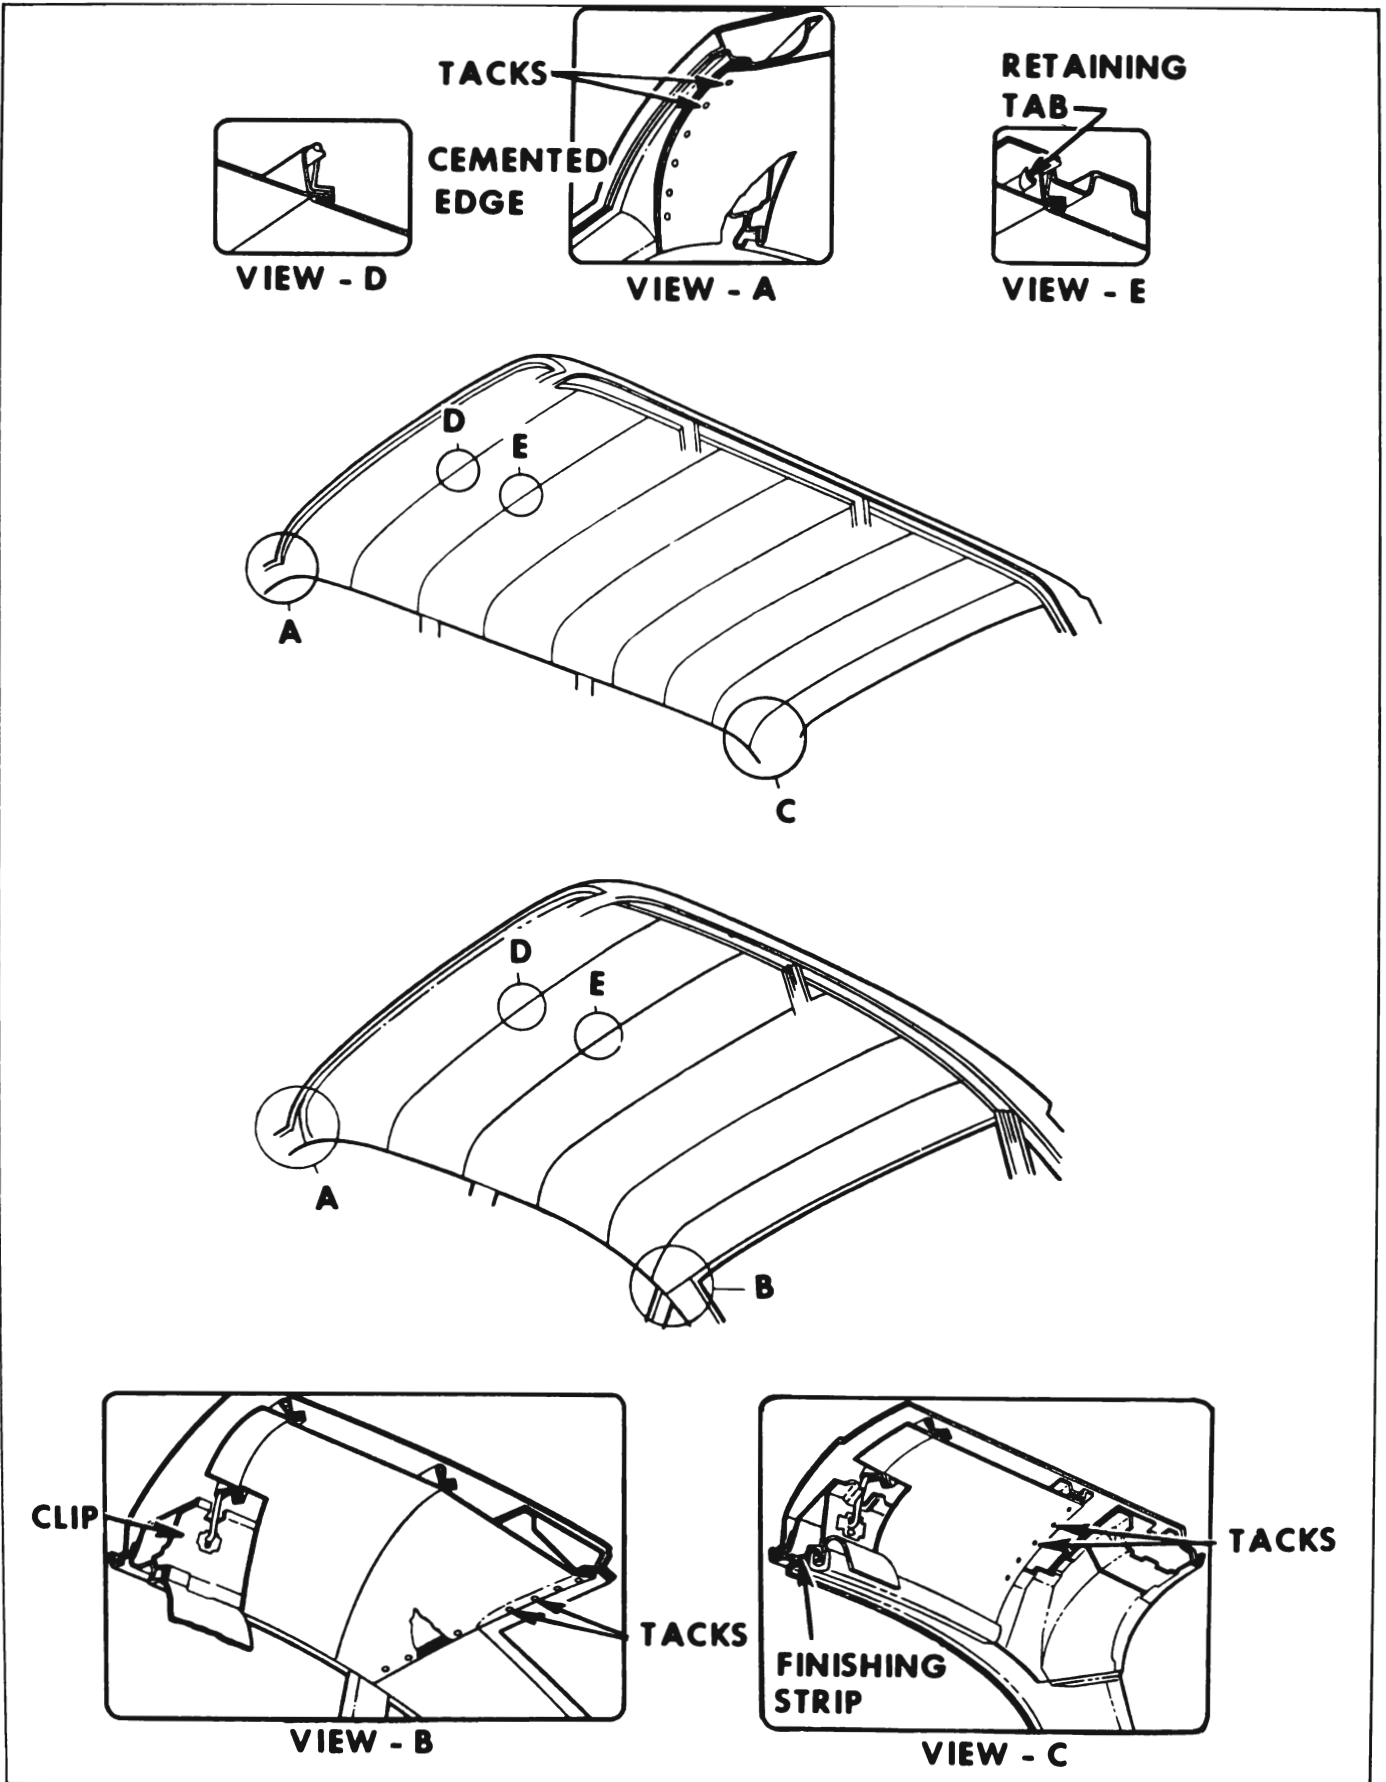

Figure 13-56—Headlining Installation
3. Carefully detach cemented edge of headlining along each side roof inner rail including rear quarter windows on station wagon styles. See view "A", Figure 13-56.
4. Carefully remove tacks or staples securing headlining at windshield opening as shown in View "A" and along back window or back body opening as shown in Views "B" and "C", Figure 13-56, then carefully detach cemented edges of headlining from openings.
6. At roof bow, bend down metal tabs, shown in View "E", Figure 13-56, and remove listing support wire from roof bow.
4. Install headlining listing support wire over metal tabs on roof bow. Bend up metal tabs so that support wire is securely fastened to roof bow. See View "E", Figure 13-56.